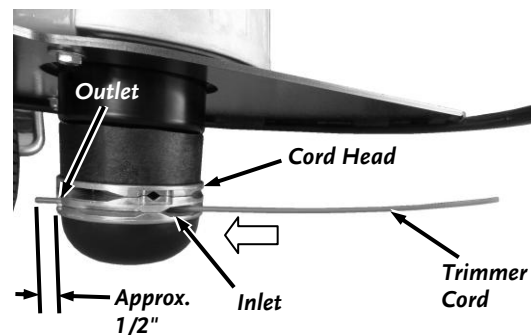

Figure 21
- Insert the end of a Trimmer Cord into the inlet hole (larger slotted cutout) push it in until the end protrudes out the other side approximately 1/2" (Figure 21).